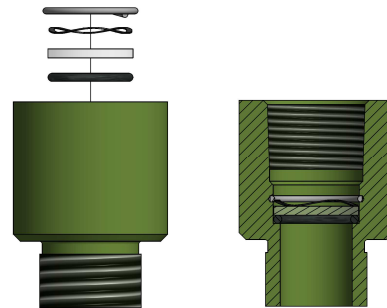

Figure 1: Lens Installation
1. Place thermal barrier THERMAL-75X75 so that the end with internal threads is facing up. In order, drop in the O-ring, lens, wave washer, and snap ring as shown in Figure 1. The snap ring should snap into the annular groove of THERMAL-75X75.